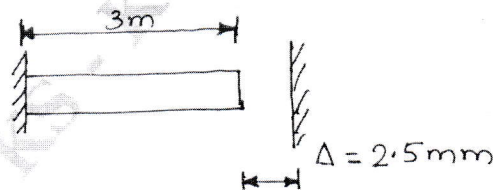

Fig. Q2(c)
- c. The bronze bar 3m long with 320mm^2 cross sectional area is placed between two rigid walls. At -20°C there is a gap $\Delta = 2.5\text{mm}$ as shown in Fig. Q2(c). Find the magnitude and the type of stress induced in the bar when it is heated to a temperature 60°C . Take $E = 80\text{GPa}$ and $\alpha_B = 18 \times 10^{-6}/^\circ\text{C}$. (06 Marks)